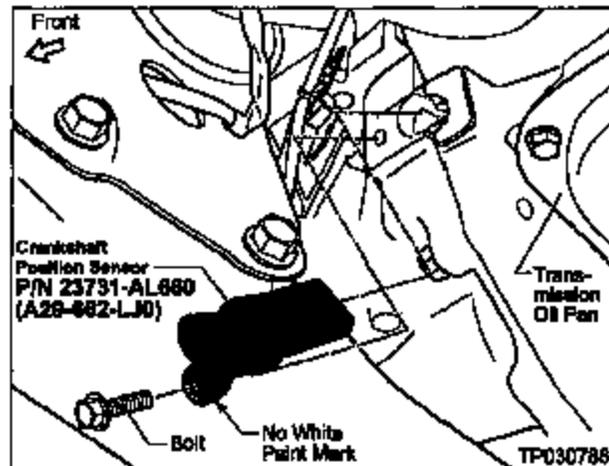

Figure 3
3. Locate the **Crankshaft Position Sensor** (see Figure 3).